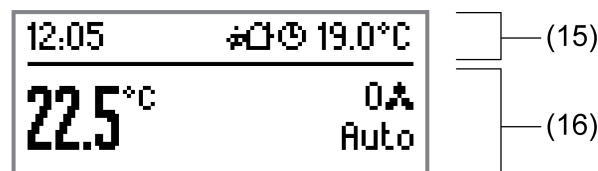

Figure 50: Example of a basic display with two display areas
The device's graphics display has 103 x 40 pixels and is equipped with switchable LED backlighting. The display is subdivided into various display areas, depending on the configuration in the ETS, the operating state and the specific device functions that are activated. A general distinction can be made between 1-area and 2-area display. With two display areas (Figure 50), the upper area of the normal display (15), also called the status line, shows symbols that indicate various operating modes of the room temperature controller or the controller extension. Moreover it is optionally possible to display in the status line the time (left justified) and additional temperature values of the controller extension (right-justified). The lower area of the display (16), also called the menu area, can be used to visualise various temperature values in a single-line or two-line format. In addition it is possible to display values that have been received by KNX/EIB via separate communication objects in various data and depiction formats. Furthermore, display of the time and date from an external KNX/EIB system clock in the graphics display can optionally be configured. When only one display area is used (Figure 51), the normal display shows temperature values and indicates the operating mode of the room temperature controller. This type of display is the clearest and simplest display function, with only a single large menu area (17).